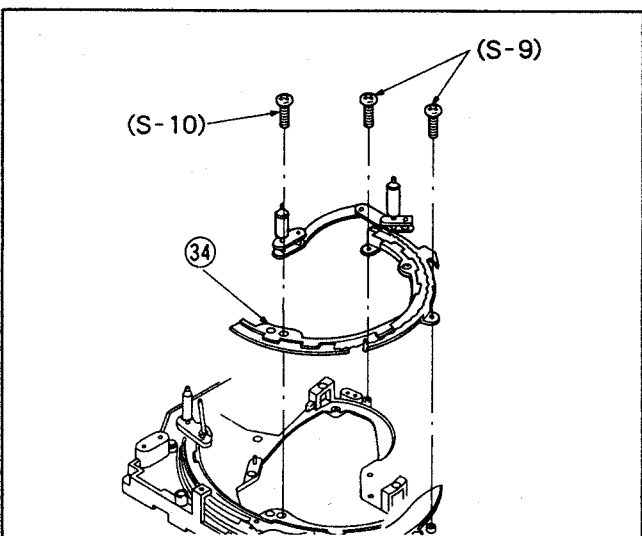

Fig. M16
- 38) Remove T rack guide unit. See Fig. M16.
- 8) Reinstall T rack guide assembly. See Fig. M16.